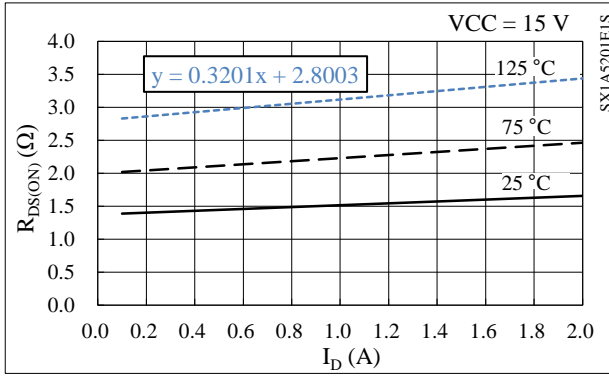

Figure 12-1. Linear Approximate Equation of $R_{DS(ON)}$ vs. I_D Curve
Steady-state loss in a power MOSFET can be computed by using the R_{DS(ON)} vs. I_D curves, listed in Section 13.3.1. As expressed by the curves in Figure 12-1, linear approximations at a range the I_D is actually used are obtained by: R_{DS(ON)} = α × I_D + β. The values gained by the above calculation are then applied as parameters in Equation (3), below. Hence, the equation to obtain the power MOSFET steady-state loss, P_{RON}, is: